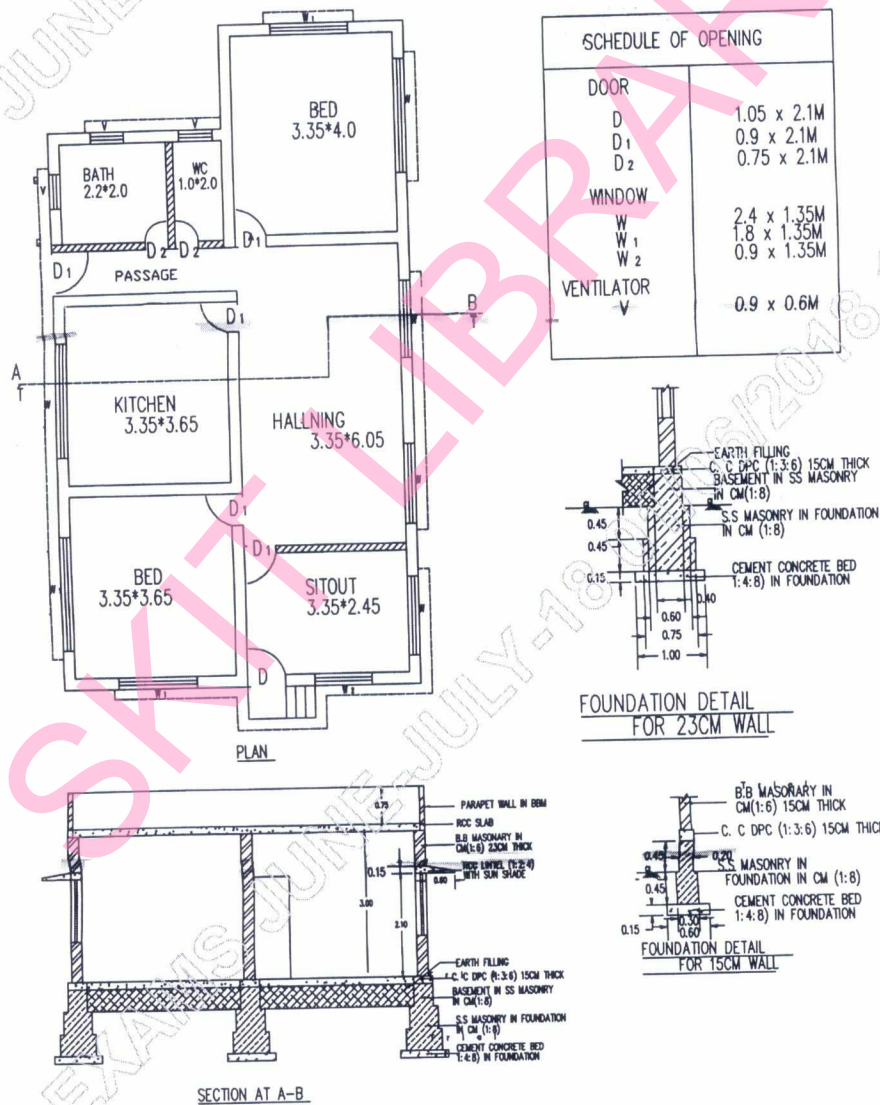

Fig.Q1
- 1 The details of residential building is as shown in Fig.Q1. Work out the quantities and cost for the following items of work, by the centre line method.